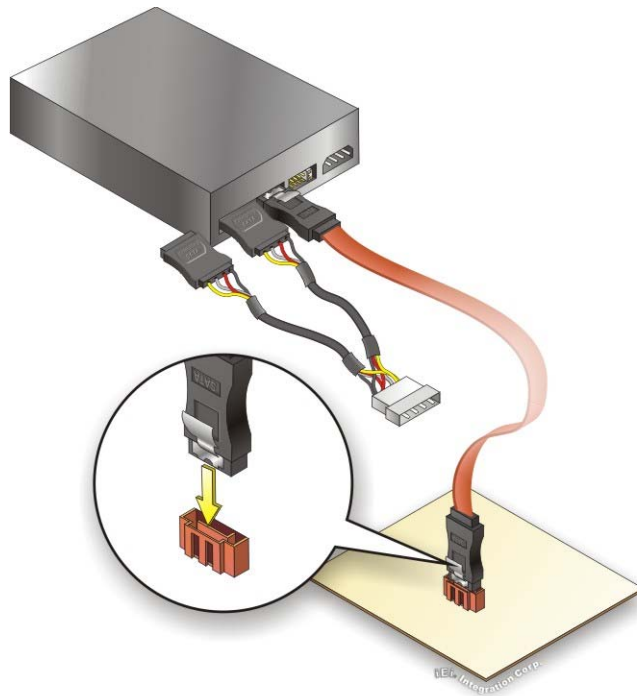

Figure 4-16: SATA Power Drive Connection
Step 3: Connect the cable to the SATA disk. Connect the connector on the other end of the cable to the connector at the back of the SATA drive. See **Figure 4-16**.
Step 4: Connect the SATA power cable. Connect the SATA power connector to the back of the SATA drive. See **Figure 4-16**.